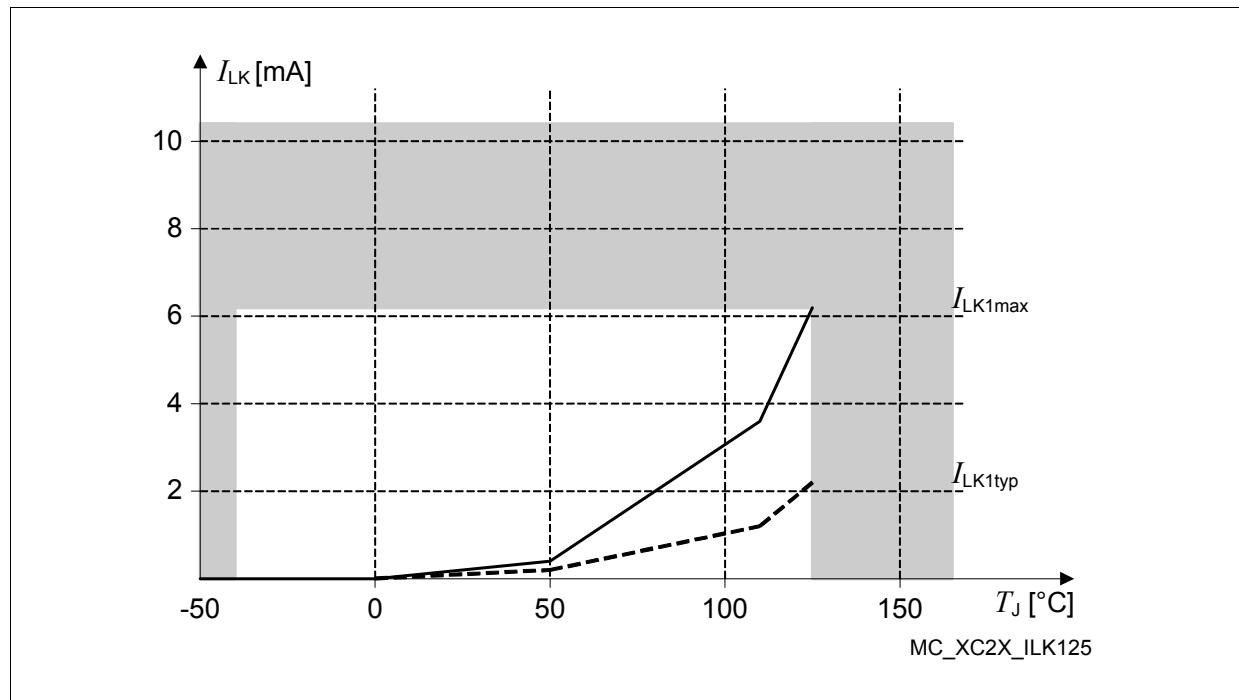

Figure 14 Leakage Supply Current as a Function of Temperature
- 2) The supply current caused by leakage depends mainly on the junction temperature (see **Figure 14**) and the supply voltage. The temperature difference between the junction temperature T_J and the ambient temperature T_A must be taken into account. As this fraction of the supply current does not depend on device activity, it must be added to other power consumption values.